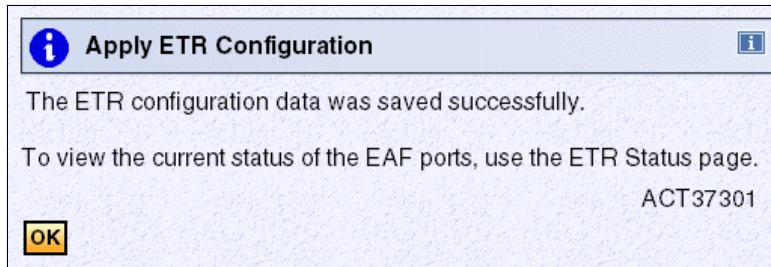

Figure 12-10 Message ACT37301 - Apply ETR Configuration (H40)
5. Confirm by clicking **Yes**. This displays the Apply ETR Configuration, message ACT37301, indicating that the change was successful (Figure 12-10).